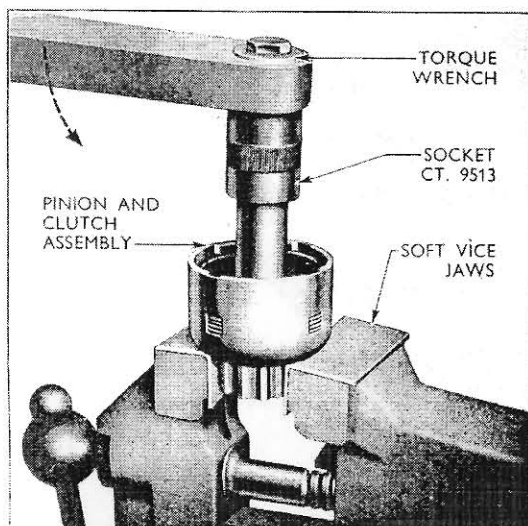

Fig. 3 Checking Slip Torque
6. Using the special socket (Tool No. CT.9513) and a suitable torque wrench apply an anti-clockwise torque to the central sleeve of the assembly. (See Fig. 3.) The clutch should not slip until the torque applied is between 65 and 80 lbs. ft. (8.983 to 11.056 kg.m.).